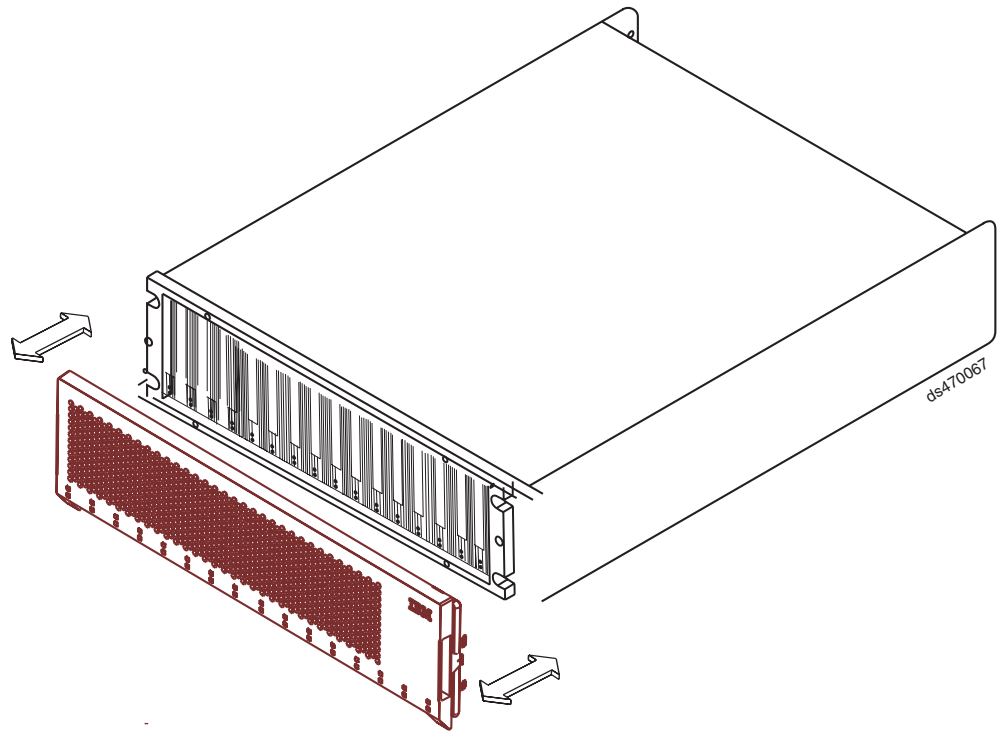

Figure 59. Removing and replacing a bezel
1. Grasp the sides of the bezel and pull it slowly toward you to remove it, as shown in Figure 59 on page 101.
2. To replace the bezel, grasp the sides of the bezel and snap it onto the EXP810 chassis, as shown in Figure 59 on page 101.
1. Remove the bezel by grasping the sides of the bezel and pulling it slowly toward you, as shown in Figure 59.
7. Grasp the sides of the bezel and snap it onto the EXP810 chassis, as shown in Figure 59.